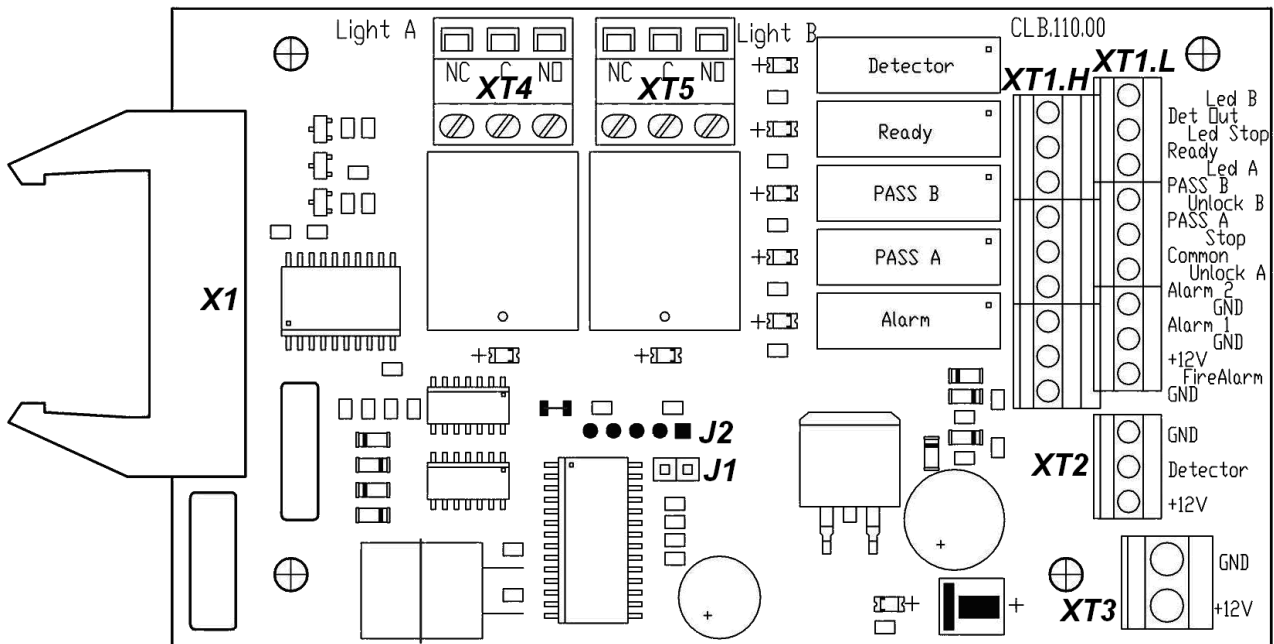
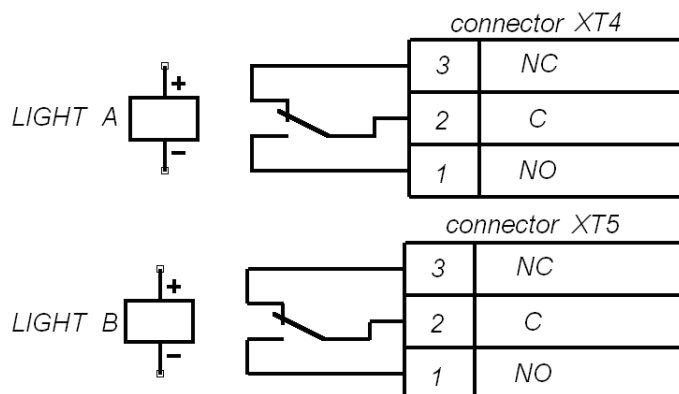

Fig. 4 Control Logic Board (CLB)
Fig.8 Output cascades for Light A and Light B
Turnstile control board (see Fig. 4) located inside the turnstile housing under the left-side outer panel (2). It connects to: RC-panel, ACS controller outputs, WRC device, intrusion detector, emergency unlocking device Fire Alarm. External devices are connected in accordance with the turnstile electrical connection layout (see Fig.13).
The CLB (see Fig. 4) contains:
The relays “PASS A” (contacts “PASS A” and “Common”), “PASS B” (contacts “PASS B” and “Common”), “Ready” (contacts “Ready” and “Common”), “Detector” (contacts “Det Out” and “Common”) and “Alarm” (contacts “Alarm 1” and “Alarm 2”) have normally open contacts. The “Common” contact, at that, is not connected to the CLB power supply negative terminal. In the initial state (inactive, when the power is on) the relay contacts “PASS A”, “PASS B”, “Ready” and “Detector” are closed (voltage is supplied to the relay coil), the relay contacts “Alarm” are broken (voltage is not supplied to the relay coil). The CLB relay operation/release is indicated by lighting up/going down of the red test indicators, located near the corresponding relays (see Fig.4).
The control mode variant is set by the jumper on the J1 connector (for the J1 connector – see Fig. 4 or the label on the turnstile frame sidewall under the left-side outer panel (2)): the jumper is fixed — pulse control, the jumper is not fixed — potential control. The jumper is fixed at the factory before the delivery.
Connection of the devices is made with cables to the corresponding connector blocks “XT1.L” or “XT1.H” of the CLB in accordance with the connection layout (see Fig.4 and 13).
The RC-panel is connected to the contacts “GND”, “Unlock A”, “Stop”, “Unlock B”, “Led A”, “Led Stop” and “Led B” of the “XT1.L” connector block. If the turnstile housing installation is not standard (e.g. the operator’s terminal is placed at the backside of the turnstile housing and not at the front side), the RC-panel orientation towards the turnstile housing can be changed by exchanging places of the RC-panel wires to the contacts “Unlock A” and “Unlock B” as well as contacts “Led A” and “Led B” accordingly (see Fig. 4 and Fig. Fig.13).
Pin assignments of those connector blocks are given on the CLB and on the label on the turnstile frame sidewall under the left-side outer panel (2) (see Fig. 4).
The intrusion detector is connected to the “XT2” connector block, and the siren is connected to the “XT1.H” connector block of the CLB according to the connection layout (see Fig. 4 and 13). There should be normally closed contacts on the intruder detector.
If the turnstile is blocked (“Always locked” mode or “Both directions closed” one, see Tables 2 and 3) and a signal comes from the intrusion detector, the “Alarm” signal is generated. The “Alarm” signal is disabled after 5 sec. or by performing of any received command. The signal from the intrusion detector is ignored for the period of authorized unblocking of the turnstile (in either or both directions). If within 3 sec after the “Always locked”/“Both directions closed” mode is set, the signal from the intrusion detector comes, it is ignored. The intrusion detector status signal is constantly transmitted to the “Det Out” and “Common” contacts of the CLB “XT1.H” connector block (see Fig. 4).
The emergency unblocking device is connected to the “XT1.L” connector block of the CLB in accordance with the connection layout (see Fig. 4 and 13). If the “Fire Alarm” input is not used, it is necessary to set a jumper between contacts “Fire Alarm” and “GND”. This jumper is set at the factory before the delivery.
The remote indicators can be connected to the connector blocks "XT4" ("Light A") and "XT5" ("Light B"). At that the "Light A" ("Light B") relay is active (the voltage is supplied to relay coil), when the "Green arrow" pictogram on the indication module (4) corresponding to the set passage direction lights, and it is normalized, when the "Green arrow" pictogram on the indication module (4) does not light. The response/trip of relays "Light A" and "Light B" can be defined according to lighting up/going down of the red indicators, which are installed near the above mentioned relays (see Fig. 4). Output cascades for "Light A" and "Light B" are nonbridging relay contacts (see Fig. 8) with the following signal characteristics: